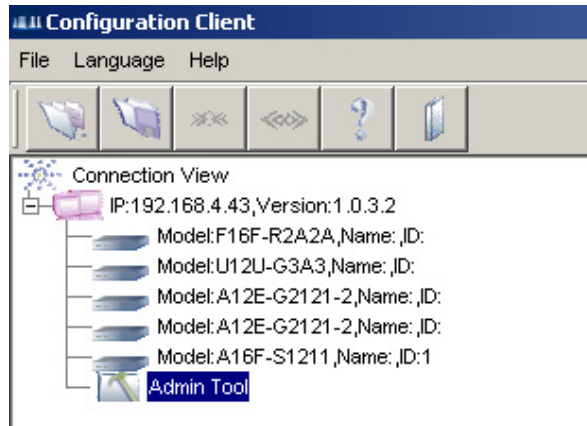

Figure 4-10: Left Column of Configuration Client User Interface
- Step 7.** Double-click the **Admin Tool** item on the **Connection View** window in the **Configuration Client** User Interface. (See *Figure 4-10*)